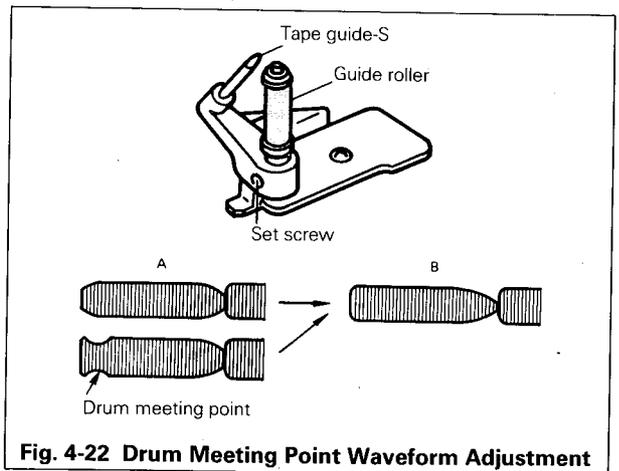

Fig. 4-22 Drum Meeting Point Waveform Adjustment
- I. If the FM waveform is like, for instance, "A" of Fig. 4-22, adjust the supply guide roller so that the waveform will be flat like "B".